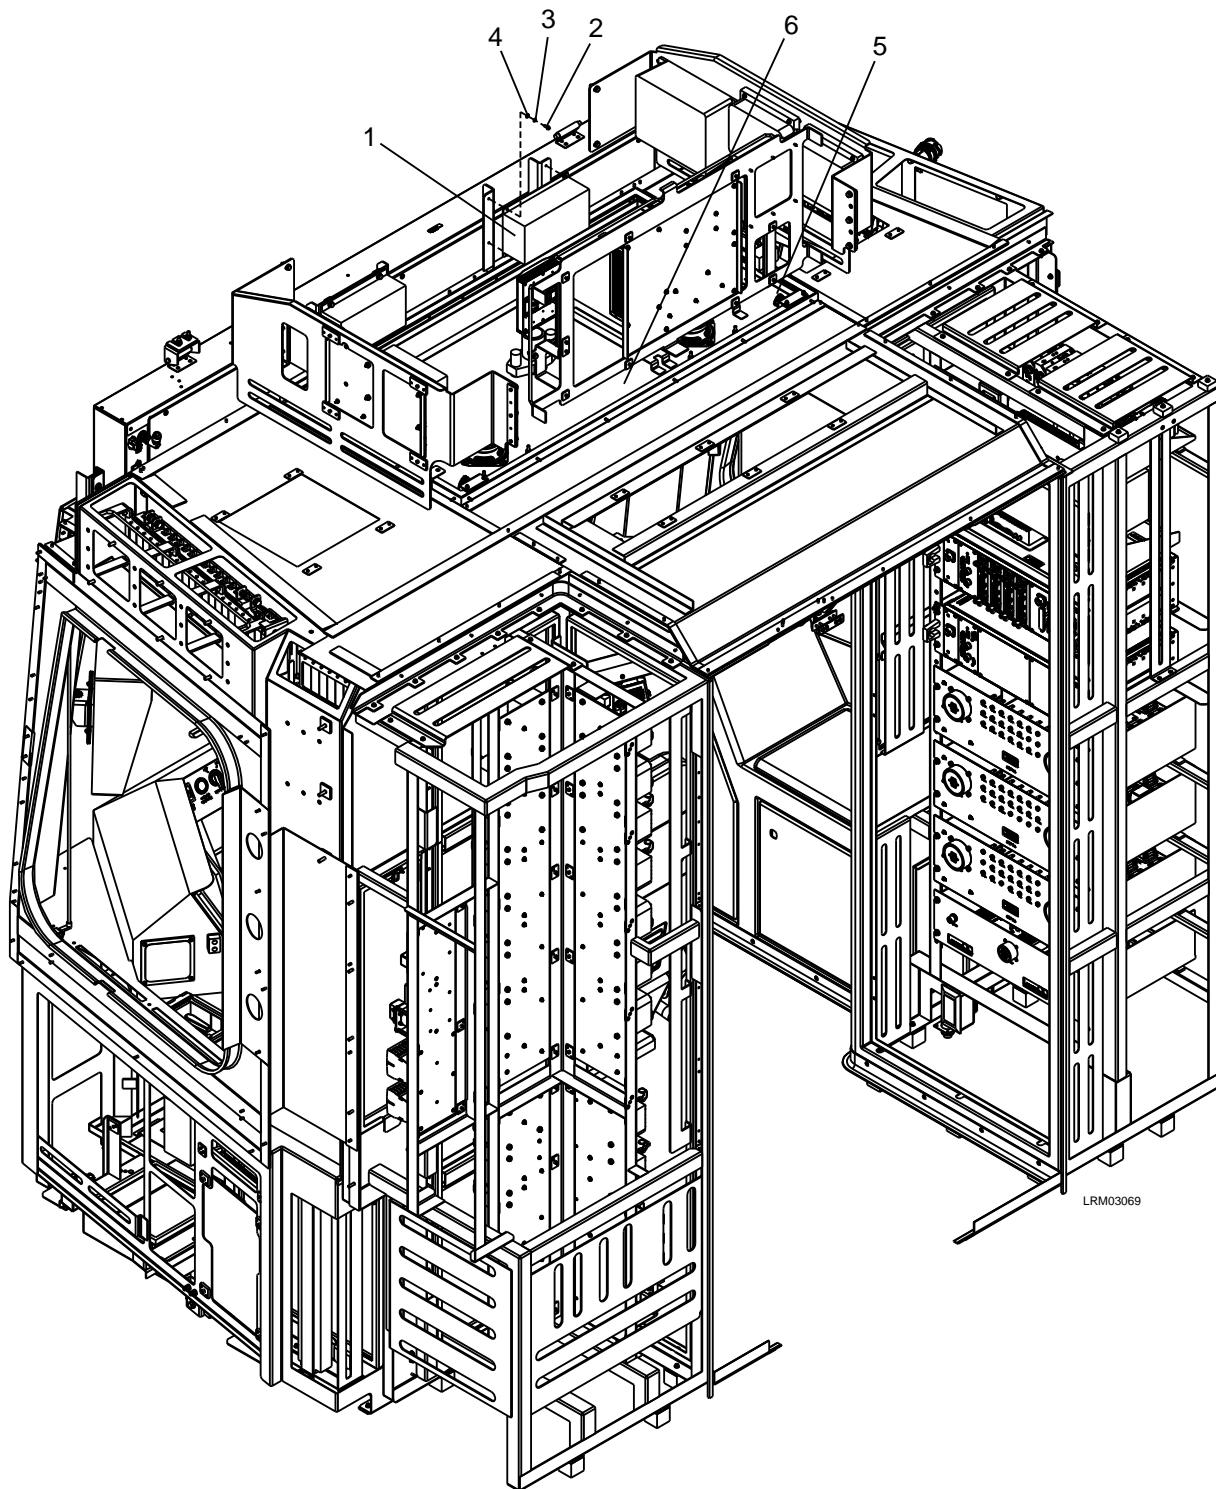

Figure 7-67: HSC-V Control Panel
1. Unlock the two locks (5) and lower the cab ceiling panel (6) to access the HSC-V Control Panel (1) and disconnect the electrical connector. See Figure 7-67.
2. Remove the four M4 x 12 bolts (2), M4 lock washers (3), and M4 plain washers (4).
3. Carefully remove the HSC-V Control Panel (1).